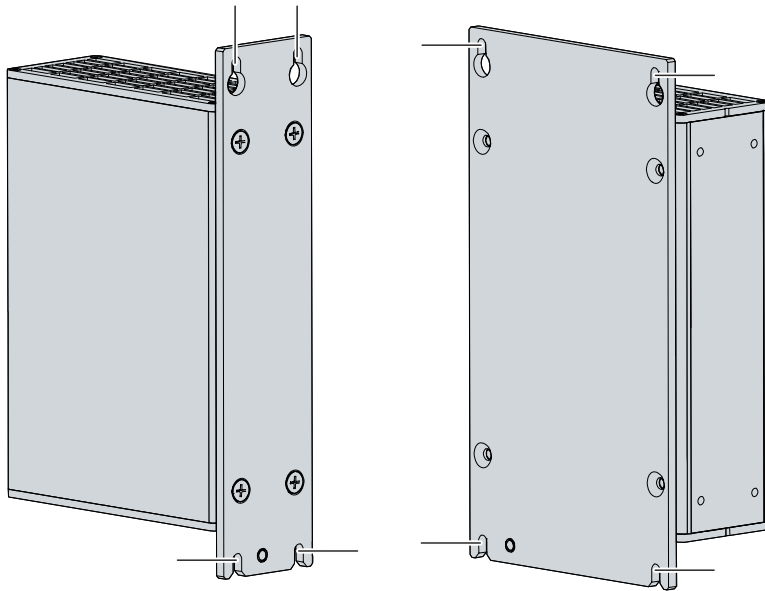

Fig. 11: C6915_Control cabinet installation
2. Hang the PC on the screws at the marked places on the mounting plate (see fig. 11).